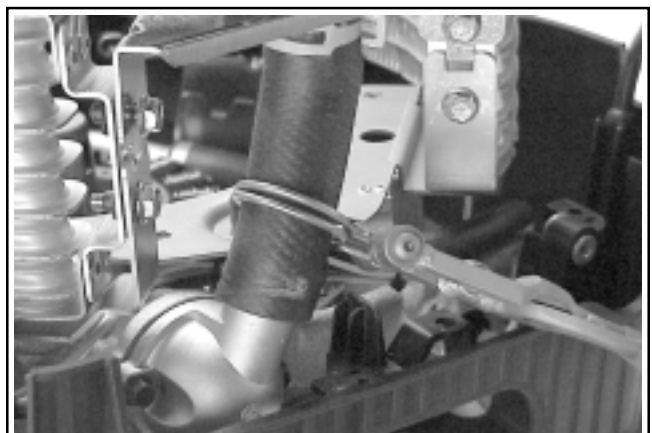

Figure 9-35. Moving Hose Clamp with Special Pliers.
5. Unseat the clamps and separate the hose connections at the outlet of the thermostat housing and the inlet of the water pump. See Figures 9-35, 9-36. Remove the tubular spacer from the underside of center mount, or the mounting stud in intake manifold. See step 1.